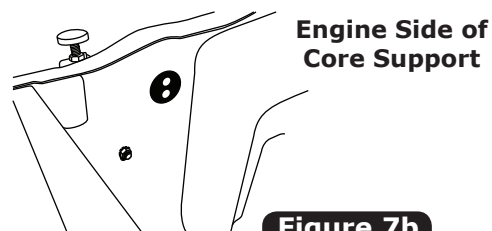

Figure 7b
3. Insert the grommet into the 1 1/4" hole as shown in Figure 7b, below.